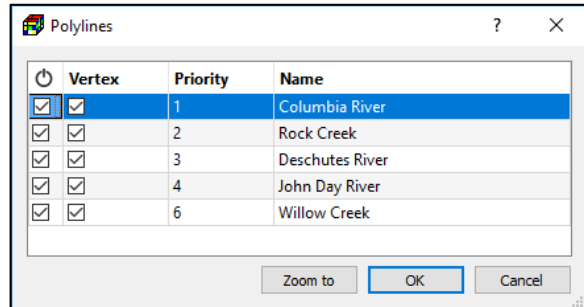

Figure 19. The Polylines dialog box
- **Manage Polylines:** Select this item to manage properties of existing polylines: You can use the Polylines dialog box (Figure 19) to manage the following polyline properties. To open this dialog box, right-click on one of the big white vertices, then select Manage Polylines from the popup menu.